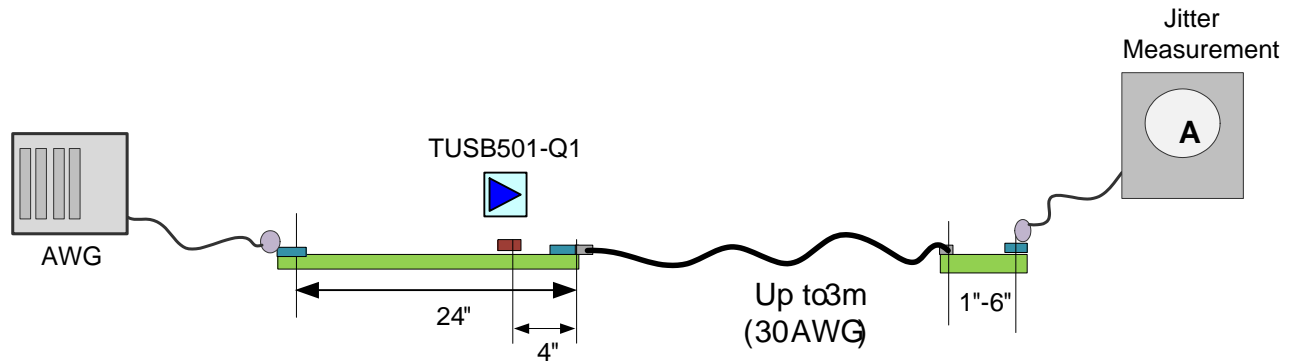

Figure 3. Jitter Measurement Setup
(1) Includes R_J at 10⁻¹².
(2) Measured at the ends of reference channel in Figure 3 with K28.5 pattern, V_{ID} = 1000 mV_{pp}, 5 Gbps, -3.5 dB de-emphasis from source.
(3) UI = 200 ps.